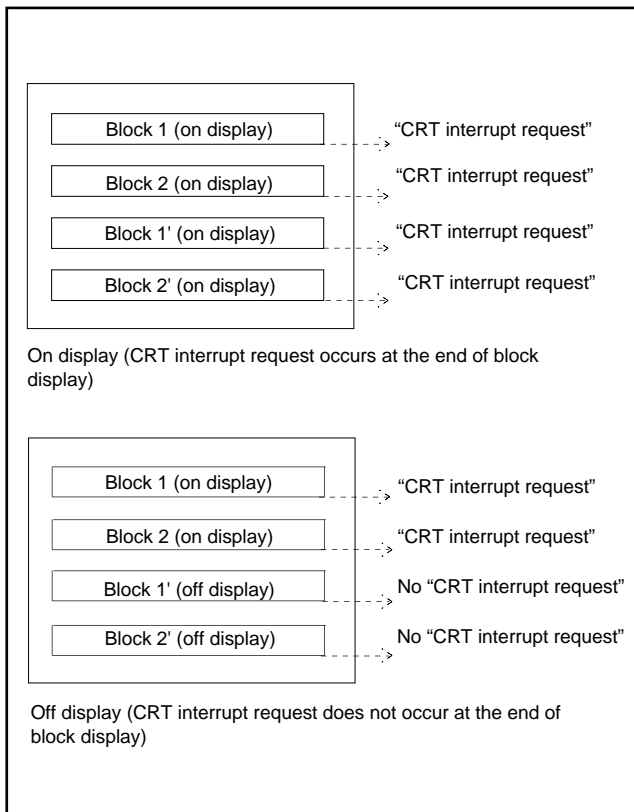

Fig. 37. Timing of CRT interrupt request
**Note:** A CRT interrupt does not occur at the end of display when the block is not displayed. In other words, if a block is set to off display with the display control bit of the CRT control register (address 00EA16), a CRT interrupt request does not occur (refer to Figure 37).